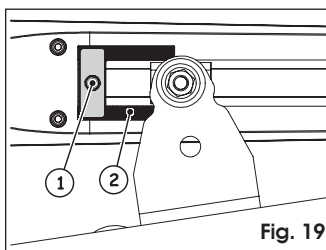

Fig. 19
3. Loosen the securing screw, figure 19 ref. ①. The screw does not need to be completely removed.
**The mechanical stop is coupled to a toothed sector, figure 19 ref. ②. In the case of obstructions during movement, check that the coupling is free. DO NOT USE FORCE.**